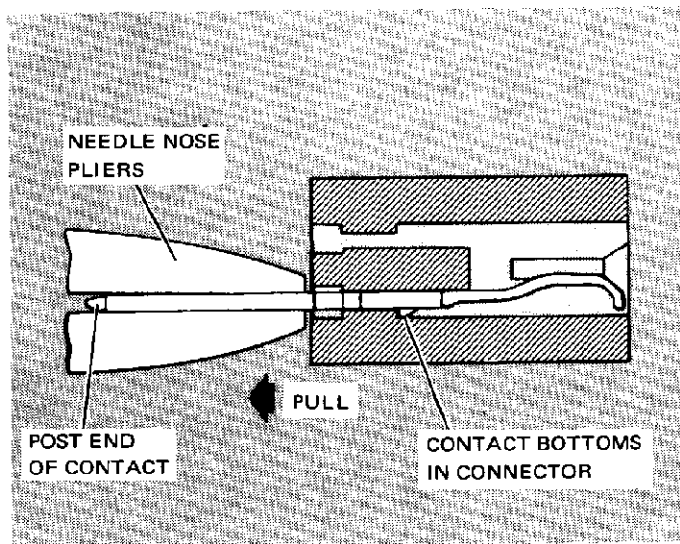

Figure 5
- Grip post end of contact with a pair of modified needle nose pliers, and pull contact until it bottoms in the connector cavity. See Figure 5.